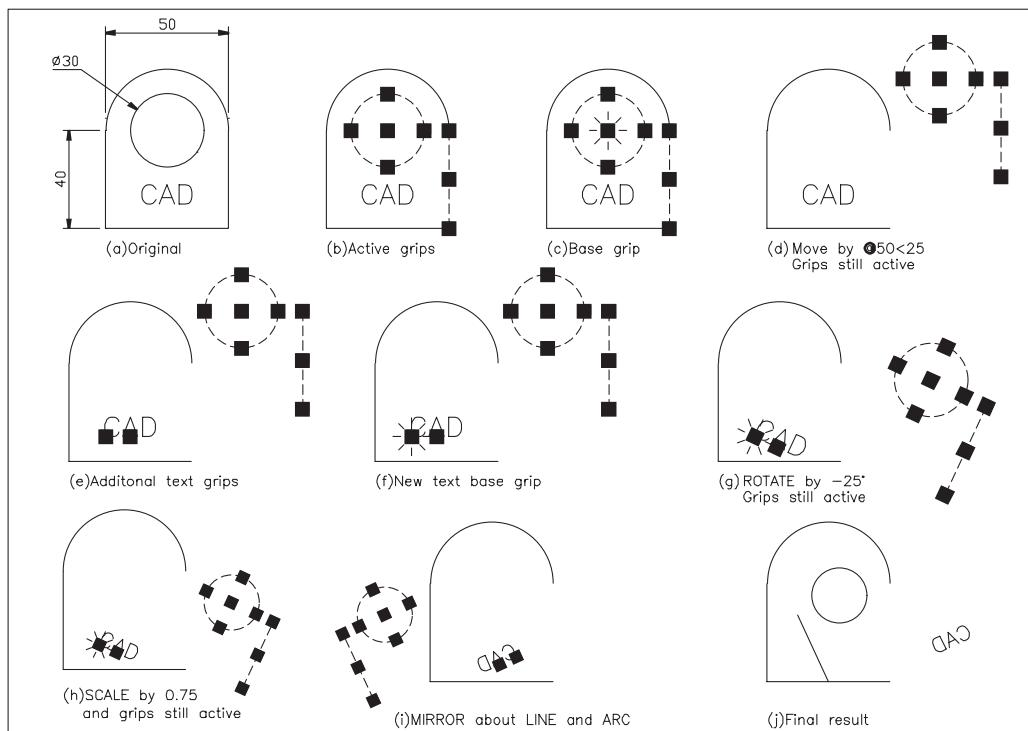

Figure 16.2 Grip exercise.
- a) Refer to Figure 16.2 and draw the original shape using the sizes given as Figure 16.2(a)
- b) Solid blue grip boxes appear and the two objects are highlighted as Figure 16.2(b).
- c) The selected box will be displayed in red – it is now the base grip as Figure 16.2(c).
- d) there is no base grip – Figure 16.2(d).
- 7 Move the cursor and pick the text item to add it to the grip selection – Figure 16.2(e).
- 8 Make the left grip box of the text item the base grip, by moving the cursor pick box onto it, left-clicking as Figure 16.2(f) and:
- 9 The circle, line and text item will be rotated and the grips are still active – Figure 16.2(g).
- 11 The three objects are scaled and the grips are still active as Figure 16.2(h).
- 13 The three objects are mirrored about the selected ‘line’ and the grips are still active as Figure 16.2(i).
- 14 Task: Move the grip objects from the lower end of the line to the midpoint of the component horizontal line as Figure 16.2(j).